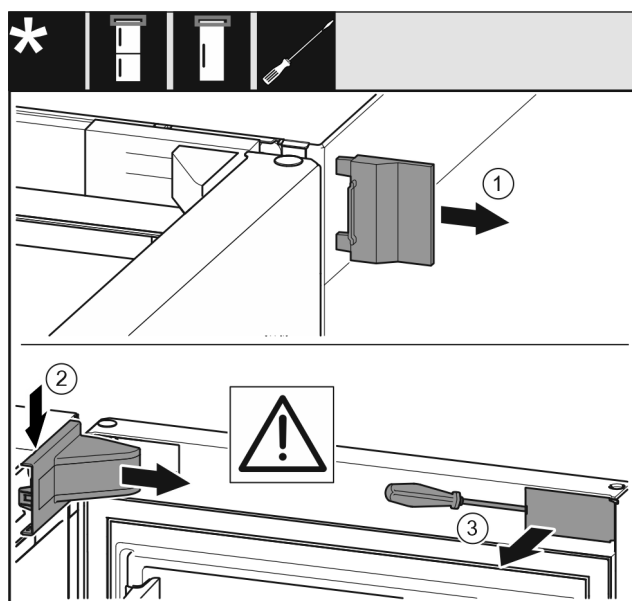

Fig. 11
- Remove the outer cover. *Fig. 11 (1)*
- Disengage and release the bearing bracket cover. Remove the bearing bracket cover. *Fig. 11 (2)*
- Unlatch the panel with a slotted screwdriver and swivel it to one side. *Fig. 11 (3)*